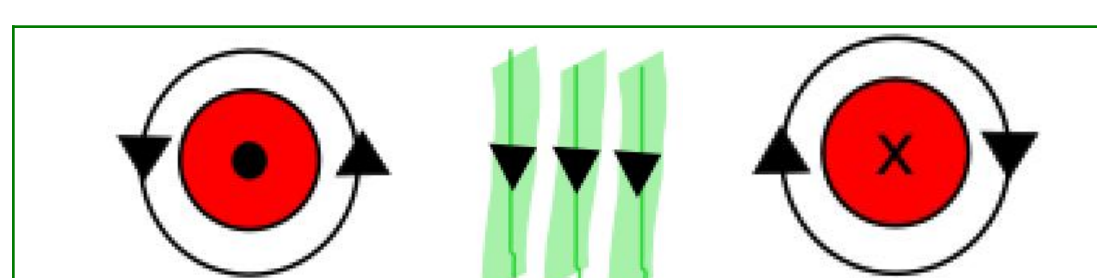

Figure 3: Opposing Magnetic Flux Φ
- The direction of Φ for the wires and fringing is represented by the black arrows in Fig. 3. This opposition leads to a Decrease in wire current and leads to Power Loss.